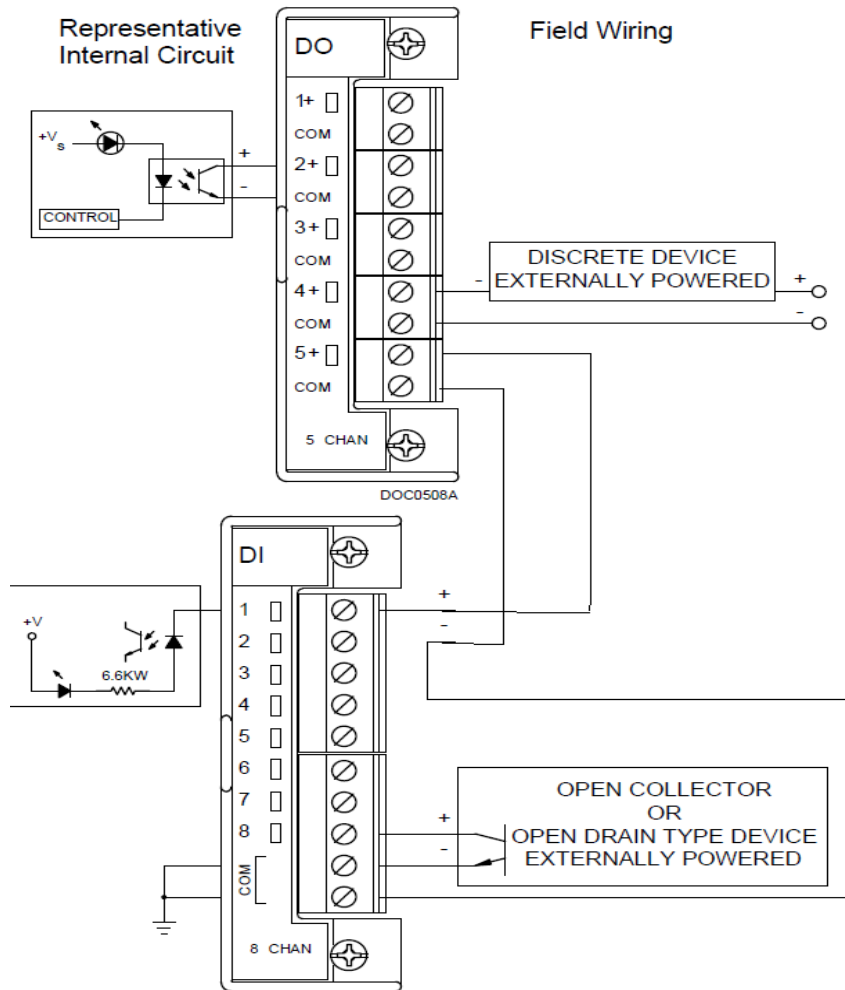

Figure E-8. DO Module Field Wiring
**Hardware/Wiring** You can connect a DI channel with the DO channel to be tested, or connect to an external source. See *Figure E-8*.